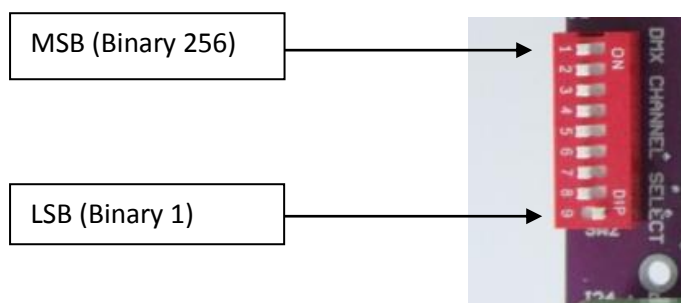

Figure 7
To set the start address you need to work out the 9 bit binary representation of the address you are setting and set this on the DMX address DIP switch (least significant bit (1) is on the **right hand side** of the switch as shown below in figure 7 (this conforms to the IT industry standard of representing binary addresses.)